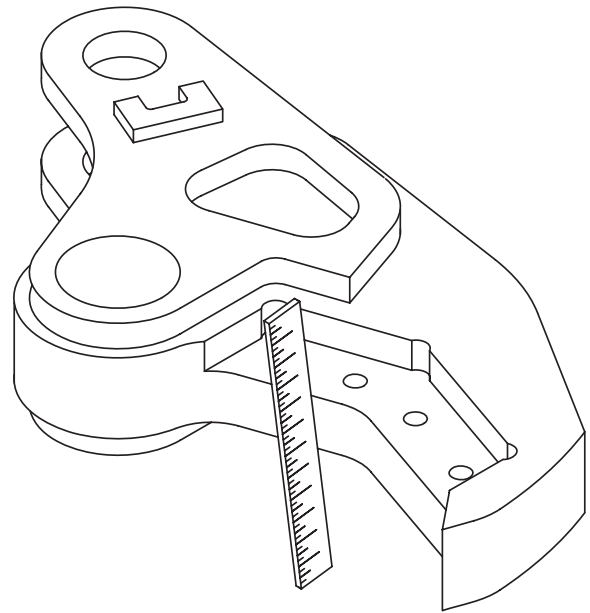

FIGURE 6-3
7. To determine how much build-up is required along the blade seats, place a square or straight edge in a cross section to the blades. Repeat steps 3 and 4 to build up this area (see figure 6-3).